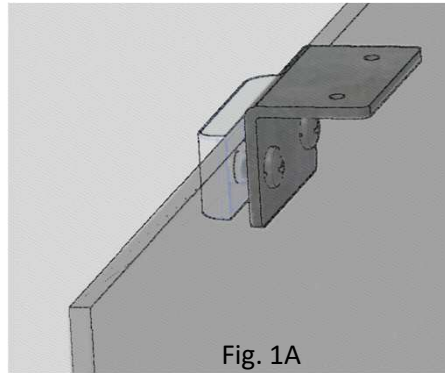
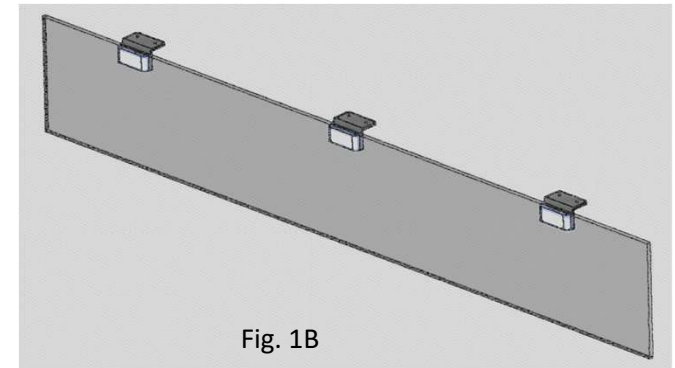

Fig. 1A
Fig. 1B
1. Align the bolt holes in the metal decorative cap with the pre-drilled holes on the front side of the acrylic modesty panel. Then align the larger 9/32" holes of the angle bracket with holes on the back side of the panel. Use (2) 1/4-20 x 1/2" machine screws to attach. (Fig.1A) Repeat for the remaining brackets. Panels for tables 60" and longer require (3) brackets. Panels for tables less than 60" require (2) brackets (Fig.1B)